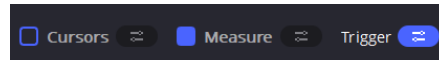

Figure 11. Enabling the Measurement Feature in Scopy
- Enable Scopy's **Measure** feature by clicking the appropriate box. See Figure 11.